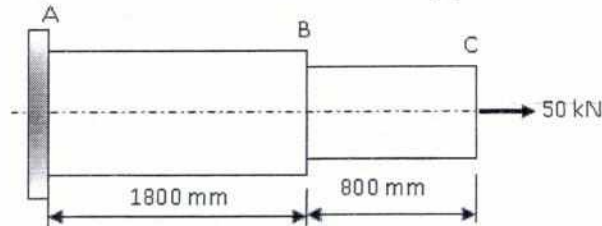

Fig.1
- Q1 (a) A load of 50 kN is applied to a compound axial member shown in Fig. 1. The segment (10) AB is a 20 mm diameter solid brass rod ($E = 100$ GPa) and segment BC is a solid aluminum rod ($E = 70$ GPa). Determine the minimum diameter of the aluminum segment if the axial displacement of C, relative to support A, must not exceed 5 mm.